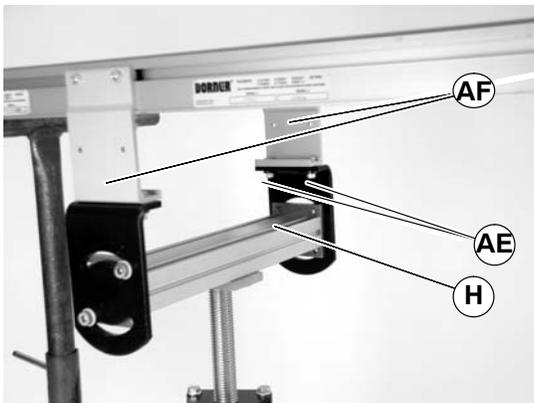

Figure 22
8. Lower conveyor supports (AF of Figure 22) onto mounting bracket (H). Attach conveyor supports to bracket with hardware (AE).
<p>WARNING</p> <p>Failure to secure screws (AE) of Figure 22) may cause conveyor sections to drop down, causing severe injury.</p>
9. Tighten fastening hardware (AE of figure 22) to 100 in-lb (11 N-m).